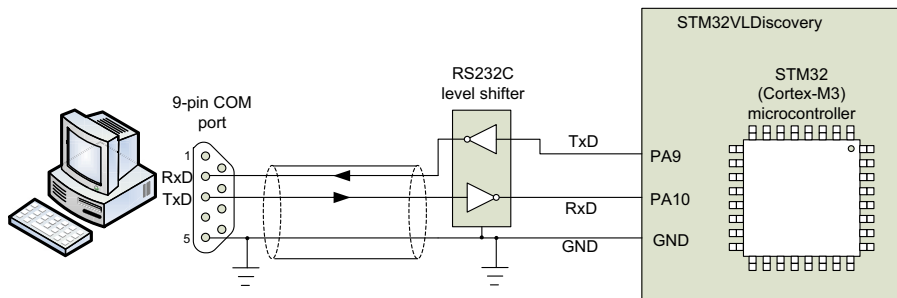

FIGURE 18.12
- Some development boards do not include a UART connector or level shifter. In order to test the UART's functionality, we need to add a simple level shifter circuit (e.g., MAX232) to the board to convert CMOS logic level to RS232 level (Figure 18.12). You can find ready-to-use RS232 converter modules in many online stores.